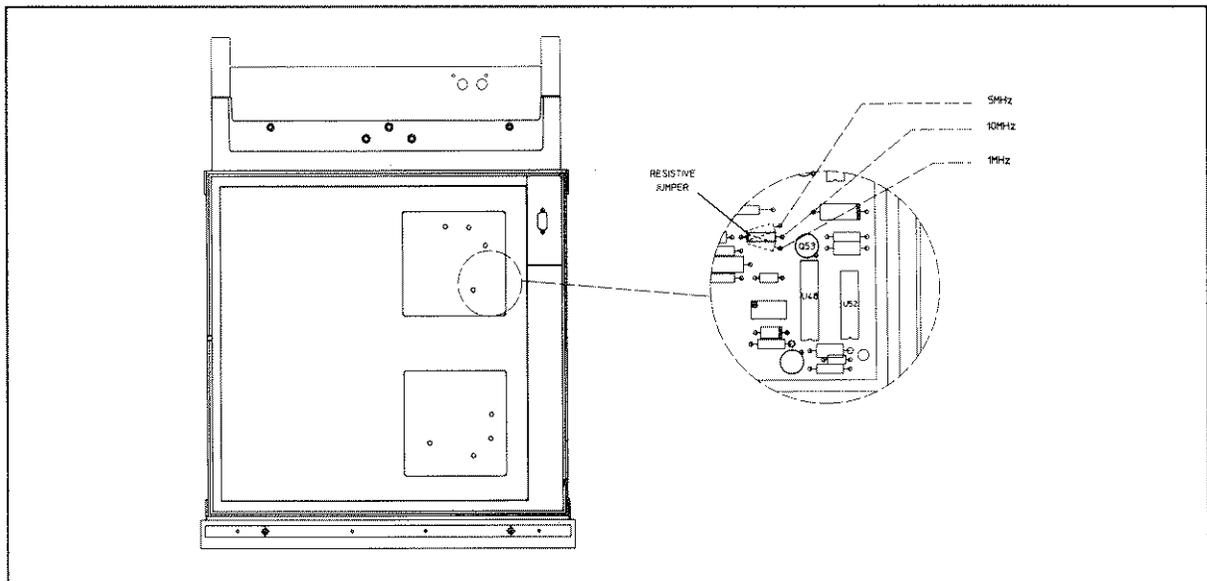

Figure 2-2. Time Base Jumper Location
- c. Refer to Figure 2-2. Locate the A3 50 MHz Reference Oscillator. Using a 1/4 inch wrench (spanner), slacken the eight retaining nuts (2 per side) which secures the top cover. Then remove the top cover. Locate the time base selection link.